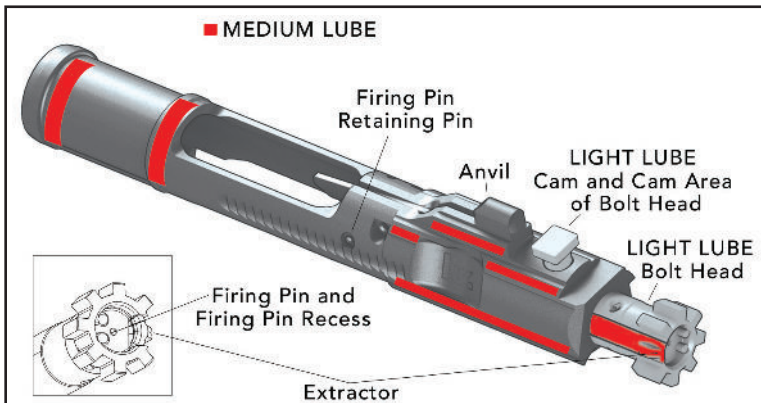

Fig. 84 – Lubrication of the Gas Piston, Piston Rod, and Barrel Nut Exterior
2. Apply a light coat of lubricant to the extractor pin, the firing pin, firing pin spring, firing pin recess in the bolt. Apply a medium coat of lubricant to the red areas (Fig 84).
3. Apply a medium coat of lubricant to the extractor (Fig. 84).